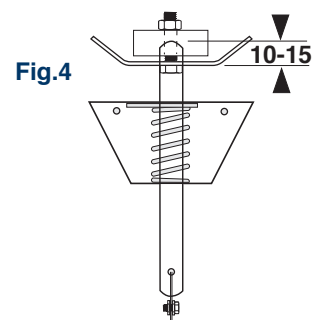

Fig.4
- When fully extended, locking pin should protrude above striker plate 10mm (min) to 15mm (max) (Fig.4)